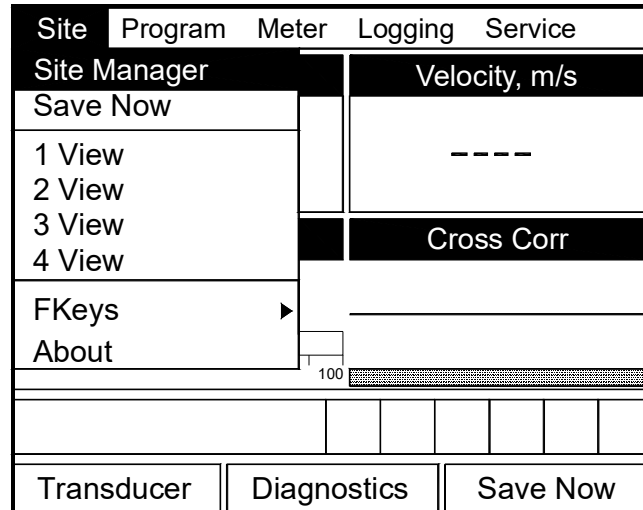
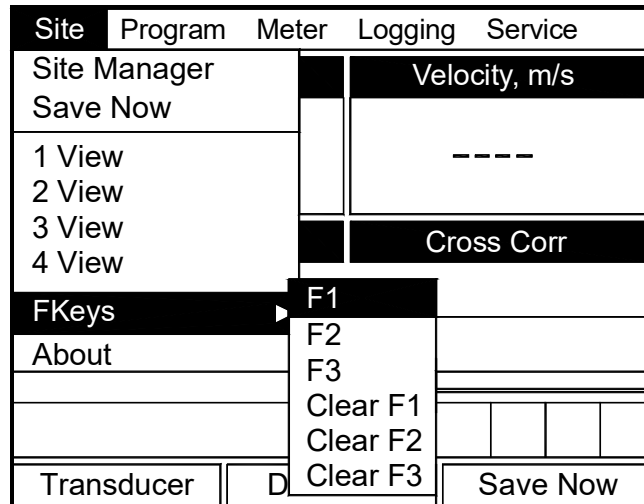

Figure 54: Site Menu
Figure 56: FKeys Menu
To enter the Site Menu, press the **[MENU]** key at the lower right of the CTF878 keypad. The Menu Bar replaces the Status Bar at the top of the screen. Scroll to Site using the **[◀]** and **[▶]** keys. Press **[ENTER]** or the **[▼]** arrow key. The screen now appears similar to Figure 54 below. While following the programming instructions, refer to Figure 60 on page 80.
As mentioned earlier, the CTF878 can display one to four different measurement parameters simultaneously. However, sometimes you might wish to display only one or two parameters. To change the number of open display windows from within the Site Menu (see Figure 54 on page 74), use the [▼] or [▲] arrow keys to move to the desired number of views (1 View, 2 Views, etc.) Press [ENTER].
- From the Site Menu (shown in Figure 54 on page 74), use the [▼] or [▲] arrow keys to move to the FKeys entry on the menu. Press [ENTER]. The screen now appears similar to Figure 56 below.
1. From the Site Menu (shown in Figure 54 on page 74), use the [▼] or [▲] arrow keys to move to the FKeys entry on the menu. Press [ENTER]. The screen now appears similar to Figure 56 on page 76.